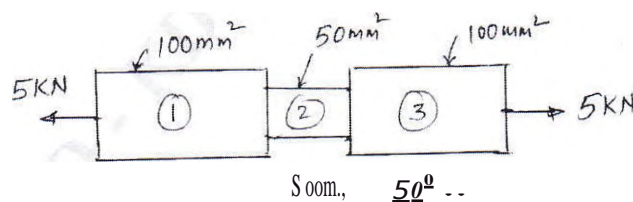

Fig.Q9(c)
c. Calculate the strain energy stored in the bar shown in Fig.Q9(c) subjected to an axial force of 5 kN. Take $E = 2 \times 10^5 \text{ N/mm}^2$.